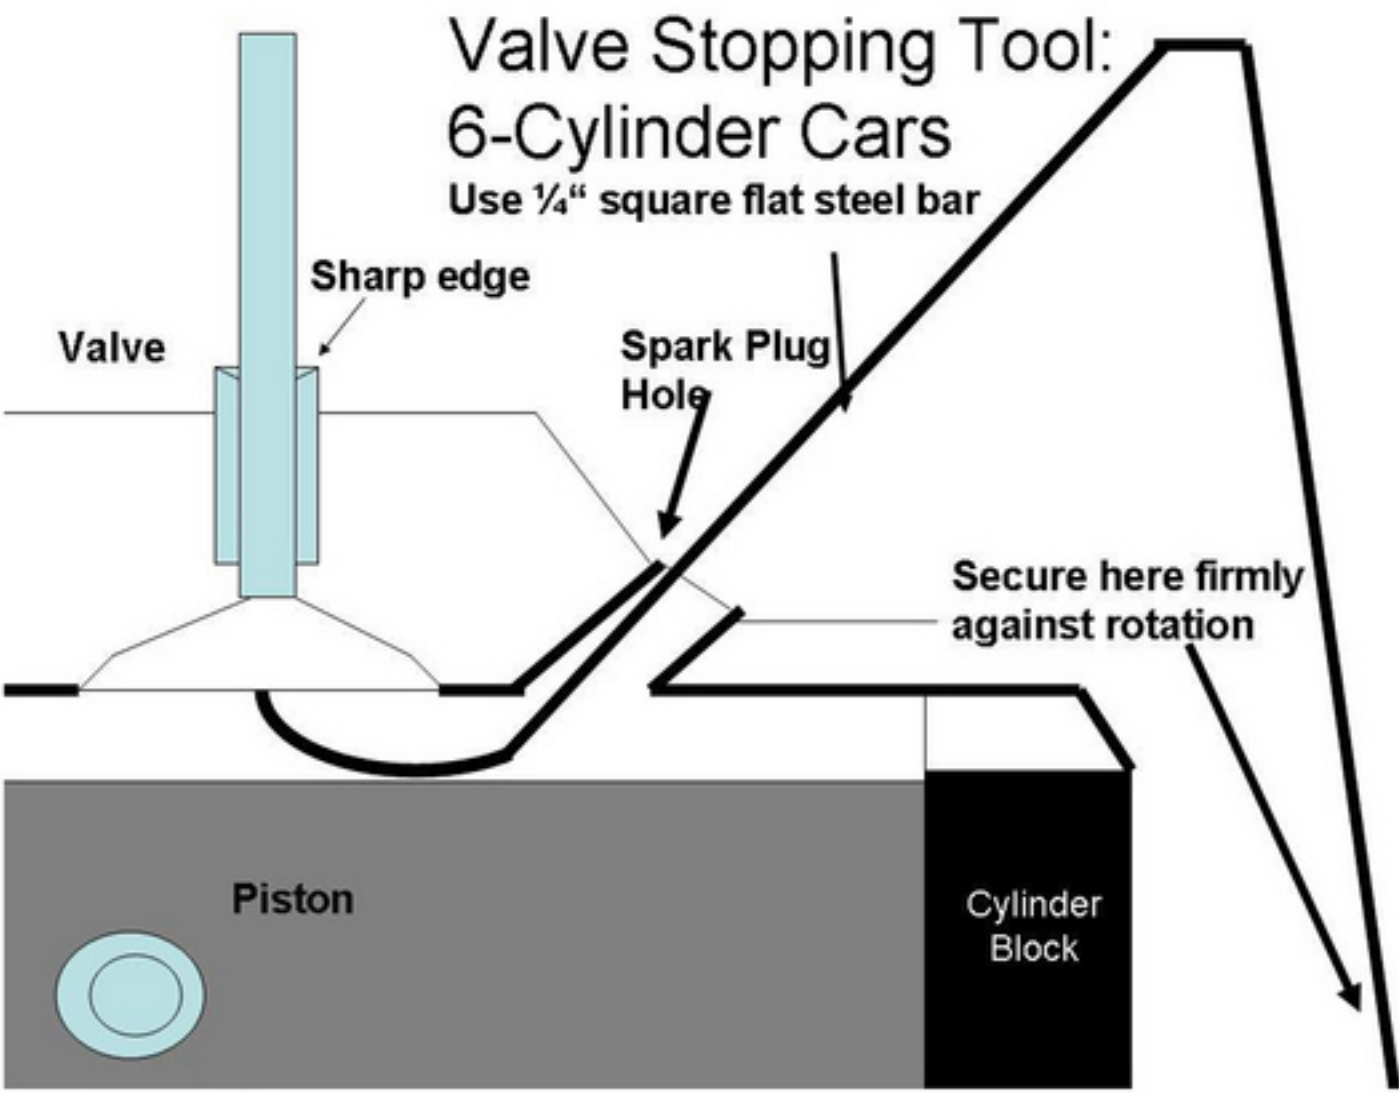

Figure 2
4. Insert the valve-stopping tool (Fig. 2 below) and locate the centre of the face of the inlet valve. Secure the tool against any possible rotation